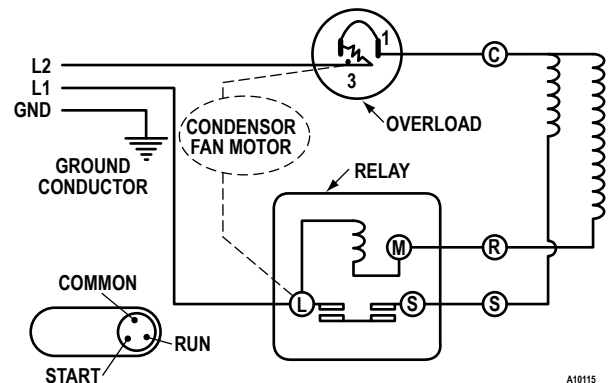

FIGURE 13. COMPRESSOR SCHEMATIC
| <ul style="list-style-type: none"> a. <input type="checkbox"/> Components rubbing or touching each other. <ul style="list-style-type: none"> <input type="checkbox"/> • <input type="checkbox"/> Check fan blades and motor. <input type="checkbox"/> • <input type="checkbox"/> Loose shrouds and harness. <input type="checkbox"/> • <input type="checkbox"/> Copper tubing. <input type="checkbox"/> • <input type="checkbox"/> Loose or unsecured parts. | <ul style="list-style-type: none"> b. <input type="checkbox"/> Worn or aged grommets. c. <input type="checkbox"/> Compressor <ul style="list-style-type: none"> <input type="checkbox"/> • <input type="checkbox"/> Bad valves. <input type="checkbox"/> • <input type="checkbox"/> Slugging. <input type="checkbox"/> • <input type="checkbox"/> Bad windings (see Figure 13) <input type="checkbox"/> • <input type="checkbox"/> Low voltage. |
- c. Check relay. See Figure 13 shown below. Unscrew lead terminals and remove relay from compressor. Keep relay upright.
- e. Check compressor windings. See Figure 13 shown below.